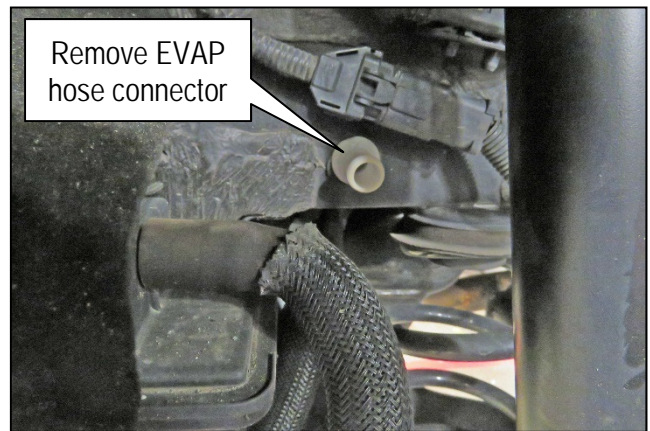

Figure 3
- Using a suitable tool, remove the white plastic EVAP hose connector from the frame and discard (Figure 3).